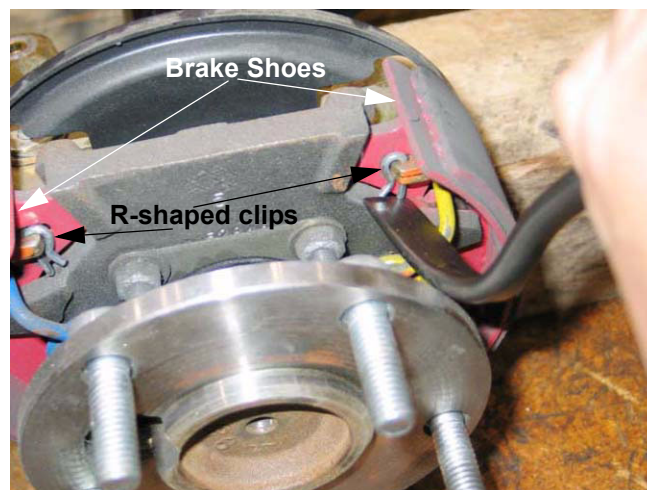

Figure 14.3
14.3. Remove the R-shaped clips that hold the brake actuator to the brake shoes, and remove the actuator. See Figure 14.3.